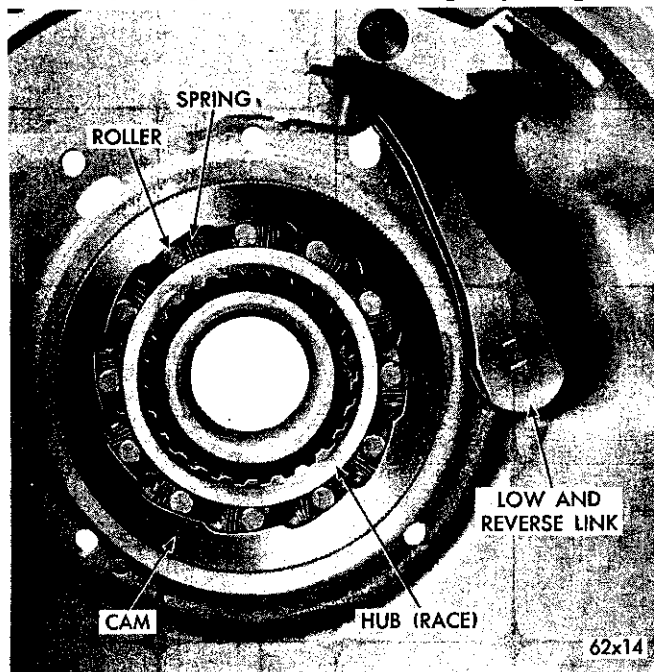
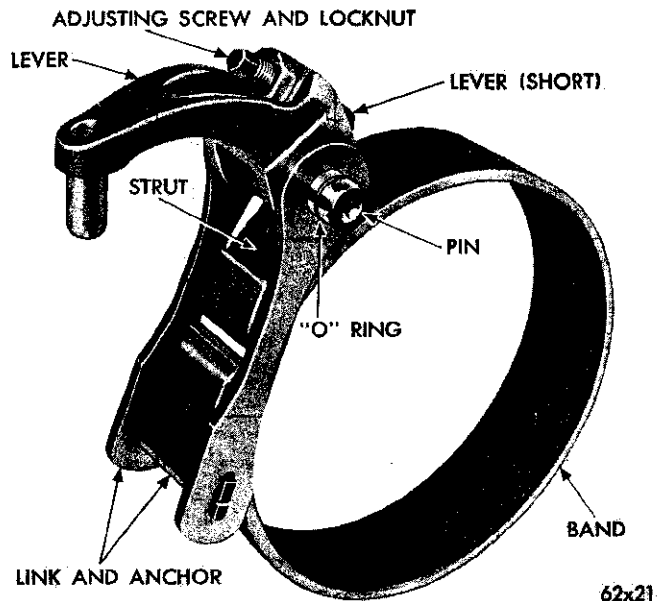

Fig. 83—Overrunning Clutch, Low and Reverse Band Link
Fig. 84—Low-Reverse Band and Linkage
(1) With the transmission case in an upright position, insert the clutch race inside the cam. Install the overrunning clutch rollers and springs exactly as shown in Figure 83.
(3) Position the rear band in the case, install the short strut, then connect the long lever and strut to the band (Fig. 84). Screw in the band adjuster just enough to hold the struts in place. Be sure the long lever and strut assembly is installed, as shown in Figure 83 to provide a running clearance for the low and reverse drum. Install the low-reverse drum.